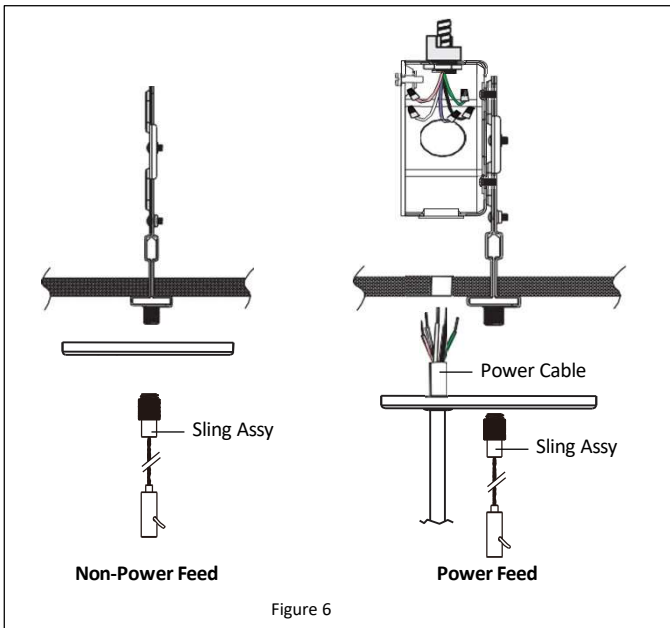

Figure 6
3. Secure the canopy cap with the sling assembly. **See Figure 6.**